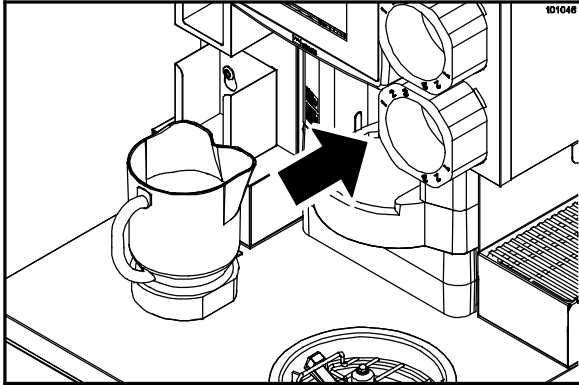

Figure 11
1. Place a blender pitcher into the dispensing area. A pitcher can be removed from the rinse station grate or the pitcher stand grate. (See Figure 11.)